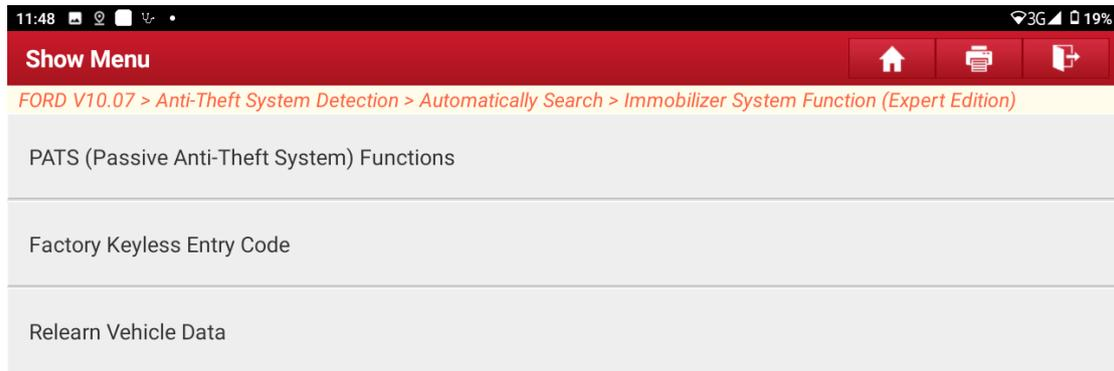

Figure 19
17. After [Parameter Reset (BCM/RFA/PCM/ABS) Ignition On] is successfully performed, return to the previous menu and perform the [Relearn Vehicle Data] function. See Figure 19.